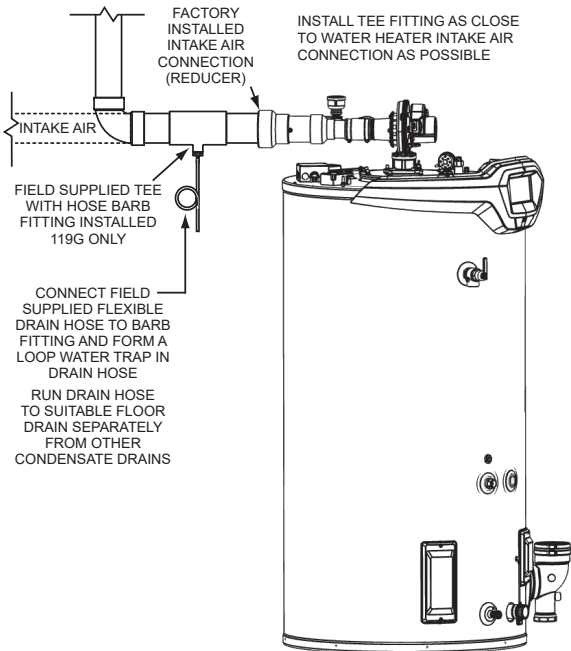

Figure 32. Intake Air Condensate Tee Installation
8. A field-supplied condensate tee fitting and drain hose must be installed in the intake-air piping near the water heater in colder climates with heavy snow accumulations and in areas that regularly experience high humidity. The drain hose must be routed to an adequate floor drain separate from any other condensate drain hoses. See *Figure 32* (page 36).
Installations with any of these conditions are required to provide a moisture drain with a trap that flows to a waste drain. **Figure 32** (page 36) and **Figure 50** (page 44) through **Figure 56** (page 46). A horizontal section of the air-inlet pipe near the heater should include a 4" x 4" x 1/2" (119 gallon) and 3" x 3" x 1/2" (60/100 gallon) tee and a hose barb fitting to drain the water. The tee should be as close to the heater as is practical. The drain tubing in any installation should have a loop trap and flow to an appropriate waste drain. The air-intake drain line must be entirely separate from the exhaust vent outlet condensate drain line.